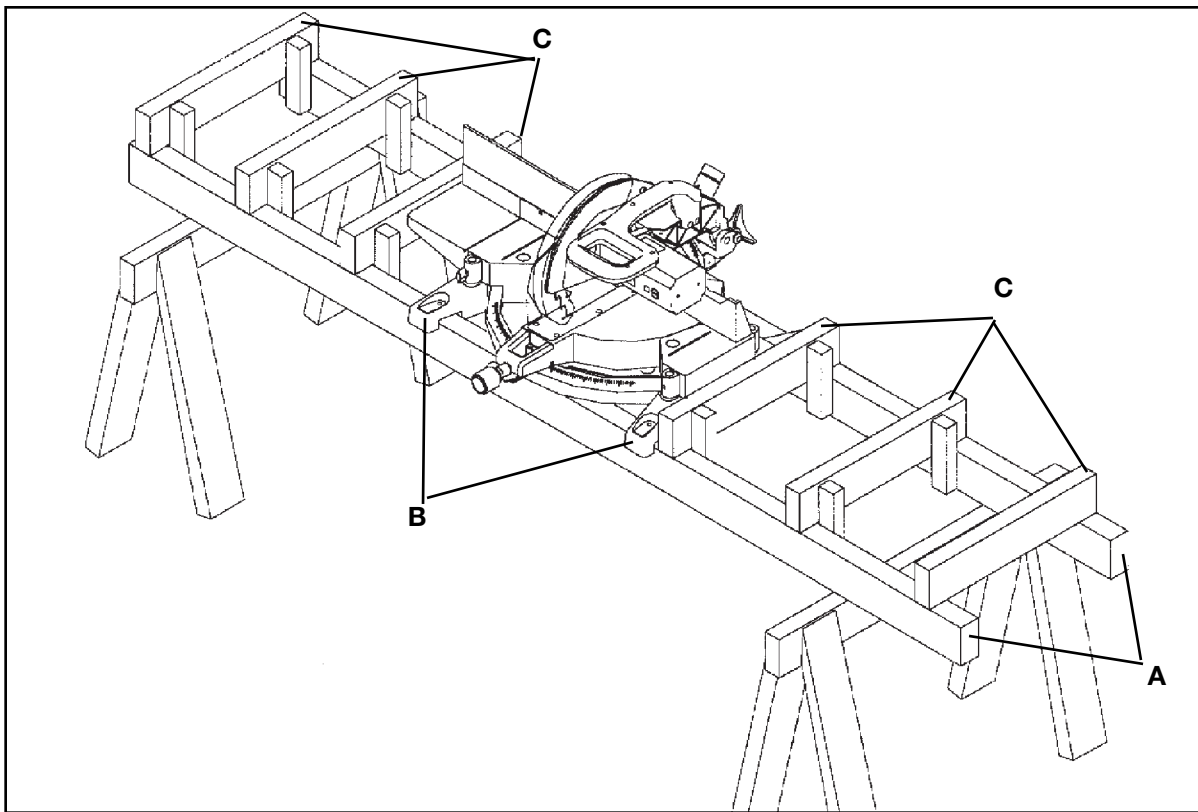

Fig. 48
One of the unique features of your miter saw is the ease with which you can construct work supports. Fig. 48, illustrates the miter saw mounted to two standard 2 x 4's (A). Fasten the grooves in the four mounting legs, two of which are shown at (B), to the 2 x 4's using four screws through the four holes in the mounting legs. The length of the 2 x 4's (A) can vary depending on your preference. The distance from the top of the 2 x 4's (A) to the compound miter saw table is 3-1/2 inches. This enables you to fasten standard 2 x 4's (C) to the top of the 2 x 4's (A), as shown. The top of the 2 x 4's (C) will then be the same height as the miter saw table. This method allows you to provide support for long work-pieces using standard 2 x 4's instead of constructing an expensive, complicated work support.